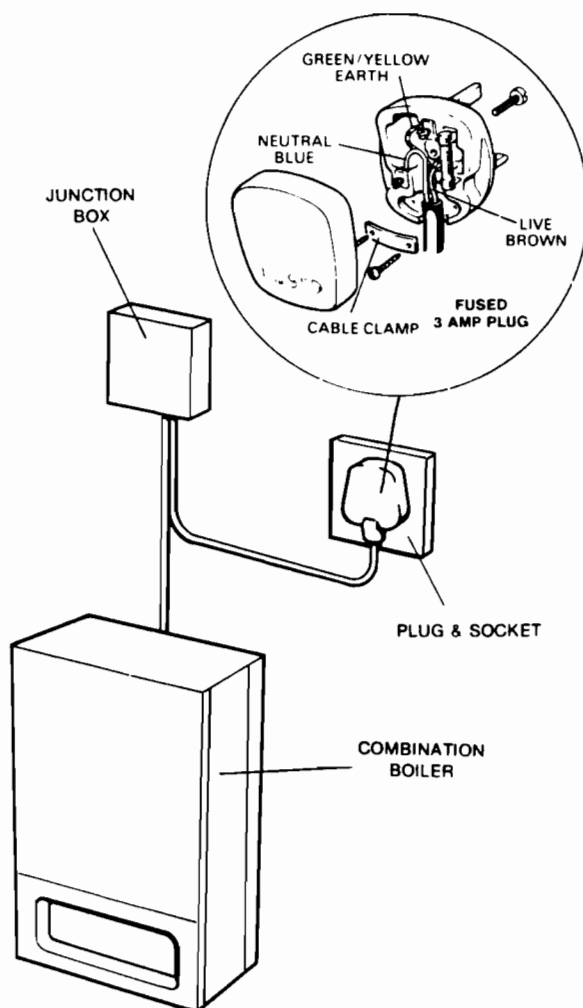

FIG. 7 BASIC WIRING ARRANGEMENT
(10) ELECTRICAL SUPPLY (see Figs. 7 and 8)
The combination boiler must **not** be used as a wiring centre for ancillary controls, it is therefore **essential** that a junction box is used. The method of connection to the mains electricity supply **MUST** provide means of completely isolating the electrical supply to the combination boiler and its ancillary controls, preferably by the use of a fused three-pin plug and shuttered socket-outlet, both complying with the requirements of BS 1363. (Fig. 7).